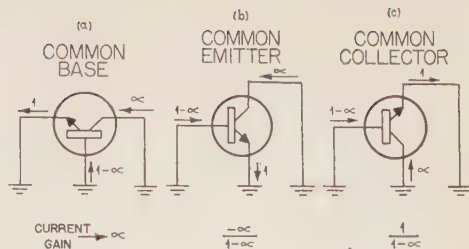

Fig. 11
emitter and (3) common collector, grounded collector. These connections are shown in Figure 11; only the currents are shown to simplify explanation of the current gains. If the circuits, we assume an input applied to the left and the output on the right, we can derive an expression for the current amplification of each. If the currents of emitter and collector are 1 and a respectively, obviously the input currents must be $1-a$ as shown to satisfy Kirchoff's current law. Dividing the output currents by the input currents we obtain current gains as follows: For the common emitter we get a , for the common emitter connection we get $\frac{-a}{1-a}$ and for the common collector we get $\frac{1}{1-a}$.
For the grounded emitter there is 180° phase shift and the sign of the current gain expression is negative. Figure 11 shows the above examples with their respective current gain expressions.